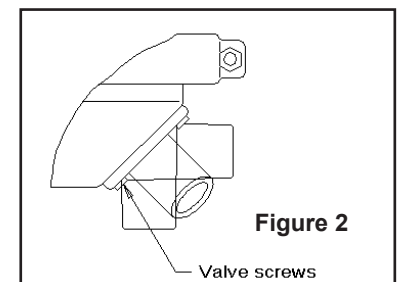

Figure 2
**Inlet/Outlet Options:** There are 4 possible hose directions for both inlet and outlet. These can be combined to give 16 port orientations (see Fig 2).